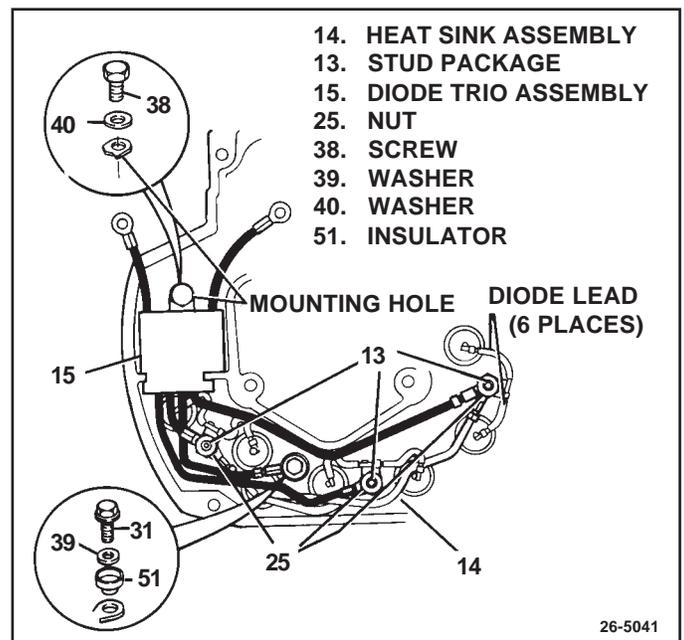

Figure 40. Installing Diode Trio Assembly
18. Install diode trio assembly (15) to rectifier end housing. (See Fig. 40) Install diode trio and capacitor attachment screw (38). This screw provides a ground for the capacitor in the diode trio assembly and must hold tab securely. Tighten to 3 N.m (26 lb. in.).
20. Place clip of red diode trio lead over hole in heat sink, then install insulator (51), flat washer (39), and heat sink attachment screw (31). (See Fig. 40)